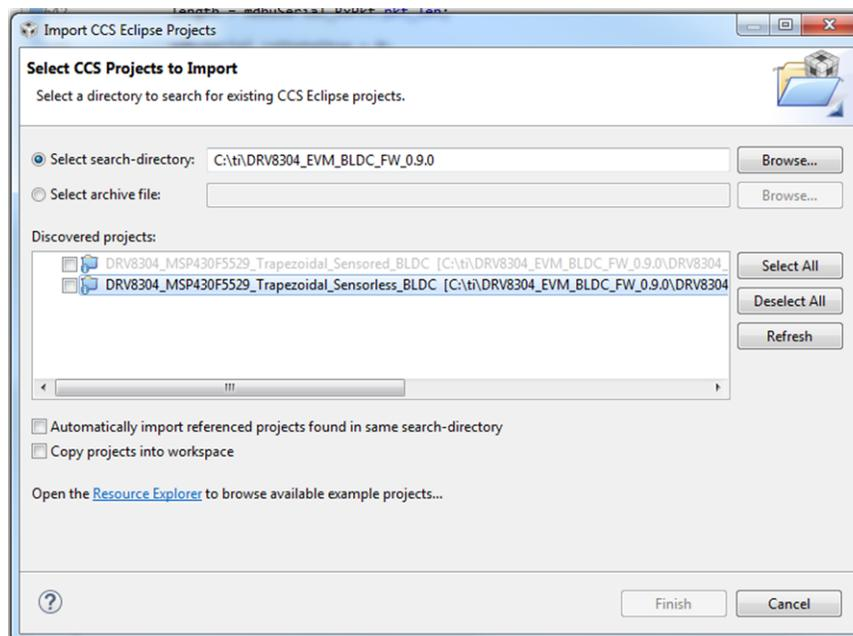

Figure 23. Select Projects to Import
- Step 5. In the new window that appears showing the import options, click the *Browse...* button and find the provided projects through the folder browser. These projects are located in the SDK installation directory. The default location of the root folder is under C:\ti (see Figure 23). When selected, the provided project appears under *Discovered Projects*.
- Step 6. Make sure the correct box is checked and then click the *Finish* button (see Figure 23).